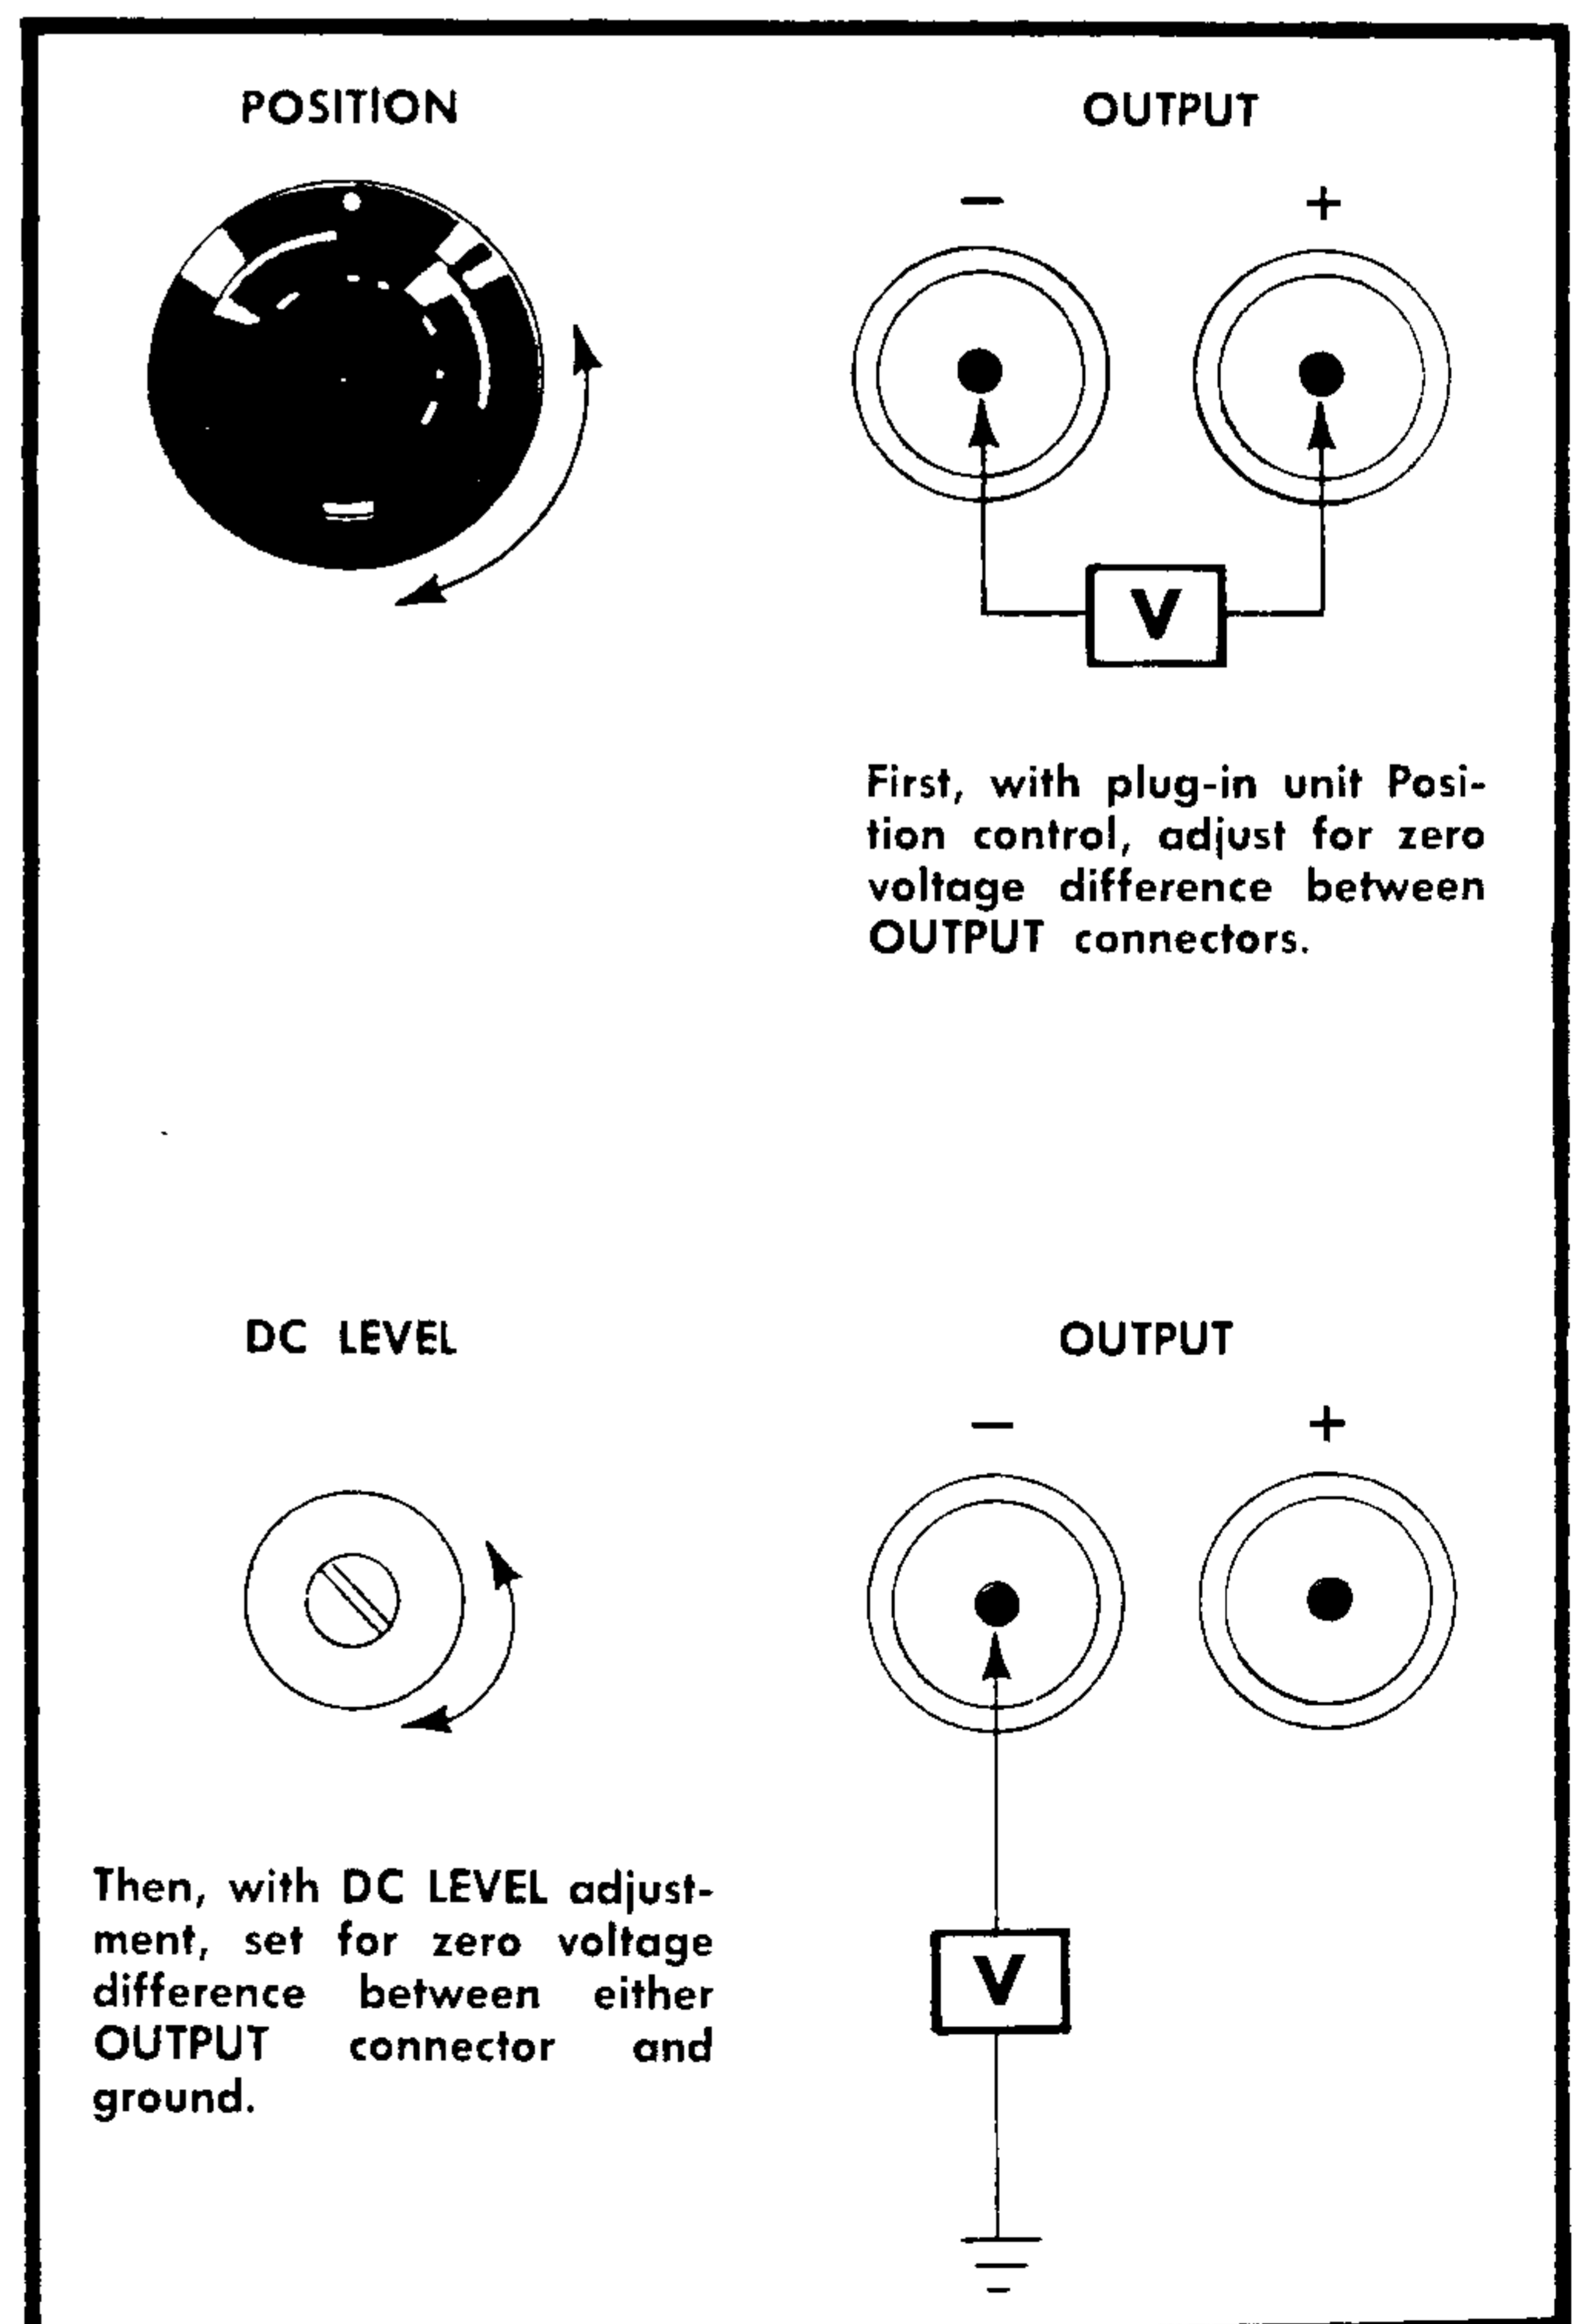

Fig. 1-6. DC LEVEL adjustment.
3. Monitor the voltage between the two OUTPUT connectors and set the Position control of the plug-in unit for zero volts (see Fig. 1-6). Do not change the setting of the Position control after it has been set as described above.